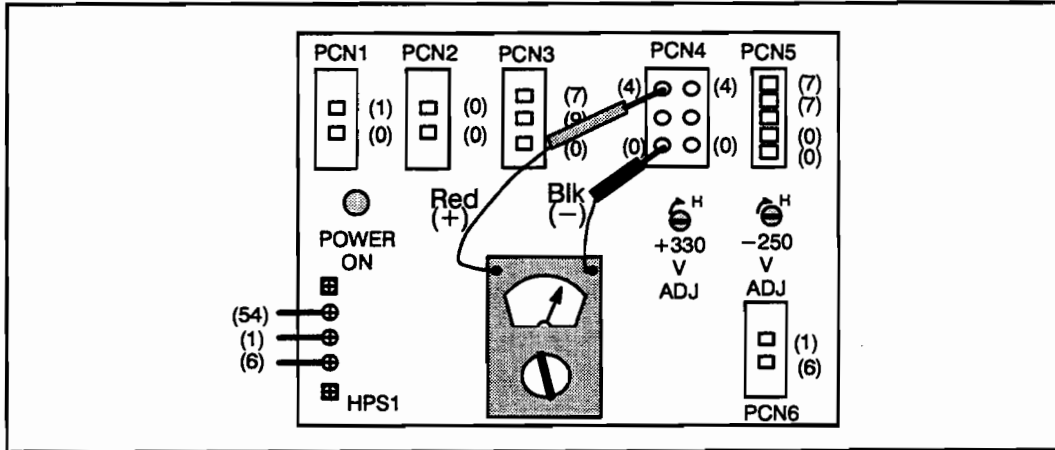

Figure 7-15. +330 V Power Supply Adjustment
1. Switch the plotter line switch to OFF (O).
5. Insert the probes (+ to Pin 1 and - to Pin 3) into the female side of the plug. See Figure 7-15.
6. Turn the plotter line switch to ON (I).